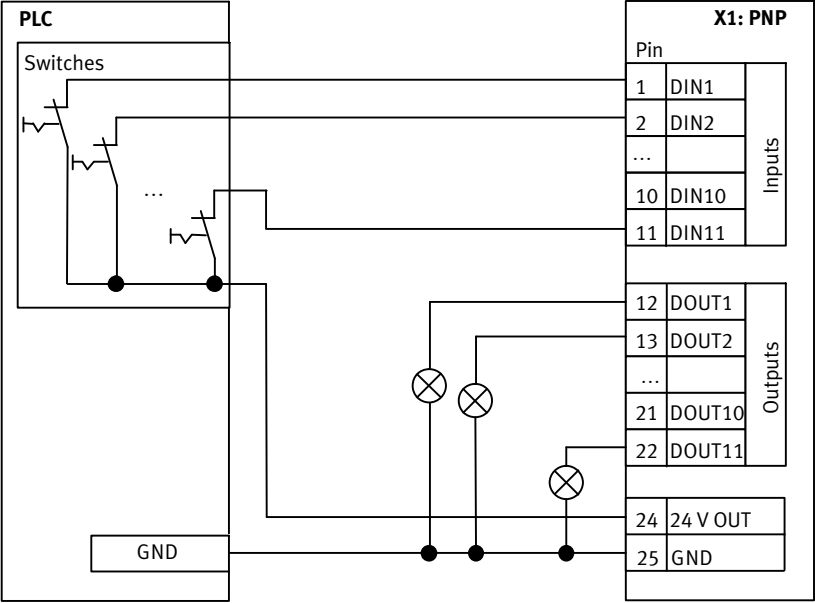

Fig. 4.2 Connection of interface variant PNP (CMMO-...DIOP)
- Type CMMO-...-DIOP = positive logic PNP (→ Fig. 4.2)